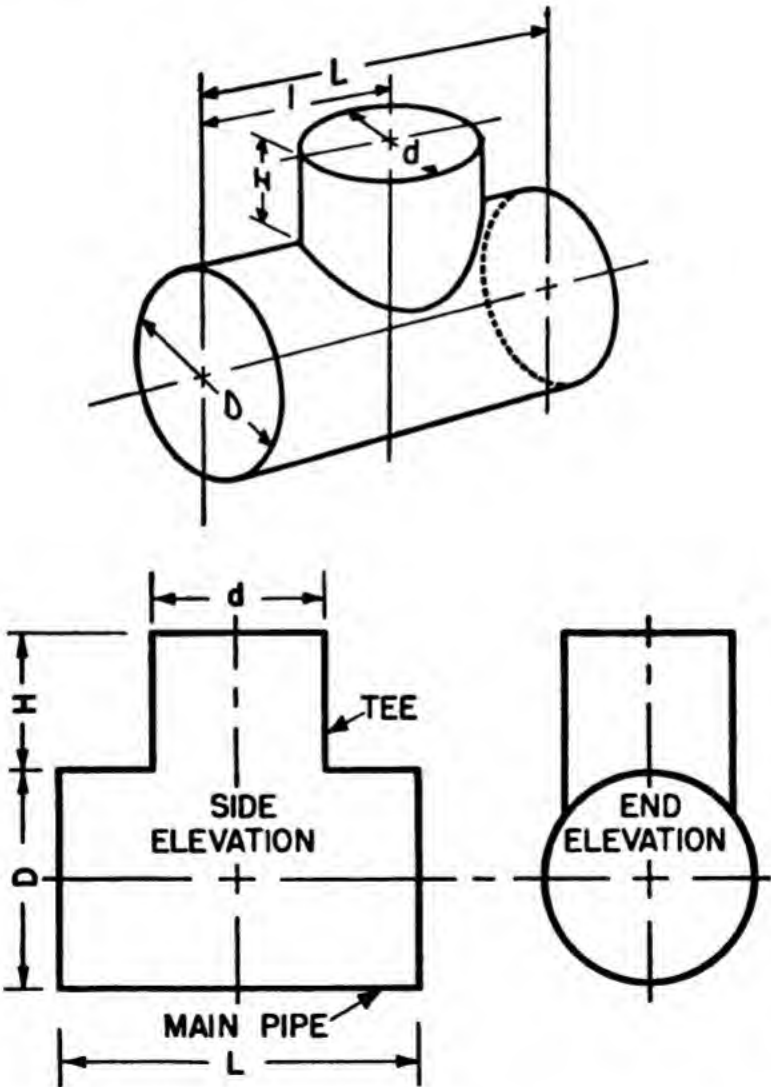

Figure 60.—Pictorial view and side and end elevation of a T-joint.
Let's see how a T-joint is developed. To develop a T-joint you will have to draw a side and end elevation of the joint. For the side elevation you draw the T exactly as you would see it when you looked at it directly from the side. Now, imagine that you are holding the T in the palm of your hand looking at the side. Revolve it 90° toward you so that you will be looking into the end of the horizontal pipe and draw the end elevation. Figure 60 shows a pictorial view and side and end elevation of a T-joint.
2. Construct parallel lines, leaving sufficient space for the development of your side and end elevations. These lines will form the center lines for the two elevations (see fig. 60).